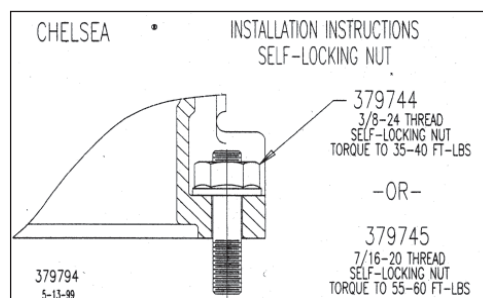

Fig. 9
- Use Self-Locking nuts and/or capscrews provided with PTO (**Fig. 9**).
**CAUTION:** When installing the 489 Series PTO several direct mount pump flange options may interfere with the mounting fasteners directly under the flange. The nut must be threaded far enough onto the stud before the remaining (6) six capscrews and other nut are tightened to prevent interference with the flange and possible breakage of the PTO housing.